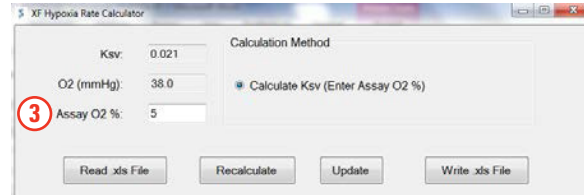

Figure 7. Indicate assay oxygen set-point.
5. Enter the assay oxygen percentage in the **Assay O₂ %** field (3, Figure 7).